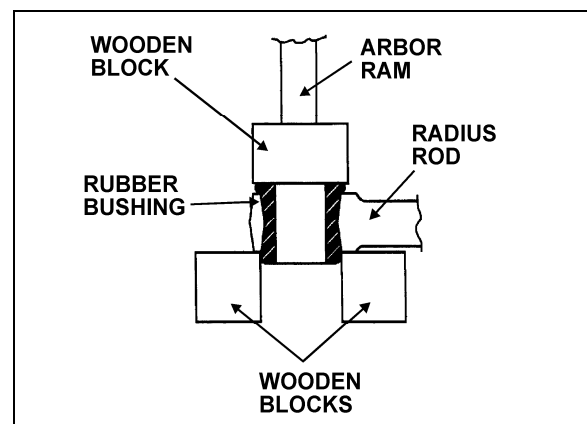

FIGURE 48: RADIUS ROD BUSHING INSTALLATION
2. Safely support the radius rod, and place new bushing on top of the radius rod end (Fig. 48).